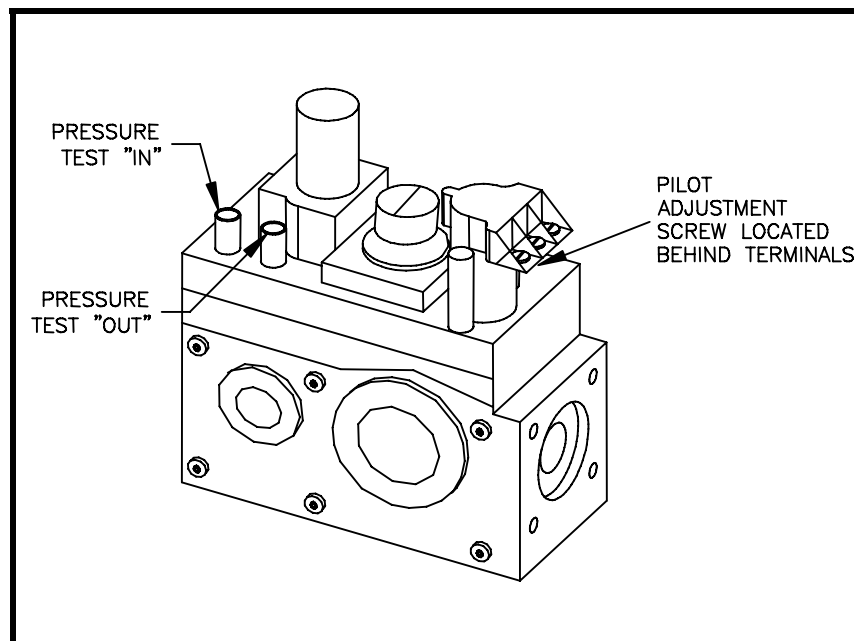

Figure 12: Gas Pressure Check at Gas Valve
- To check gas pressure at valve, turn captured screw counter clockwise 2 or 3 turns and then place tubing to pressure gauge over test point. Refer to Figure 12: Gas Pressure Check at Gas Valve. After taking pressure reading, be sure and turn captured screw clockwise firmly to re-seal. Do not over torque. Check for gas leaks.